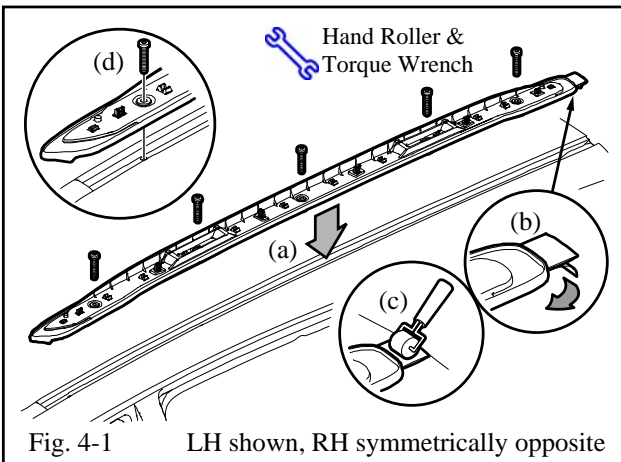

Fig. 4-1 LH shown, RH symmetrically opposite
4. Secure Rails to Roof (Fig. 4-1)